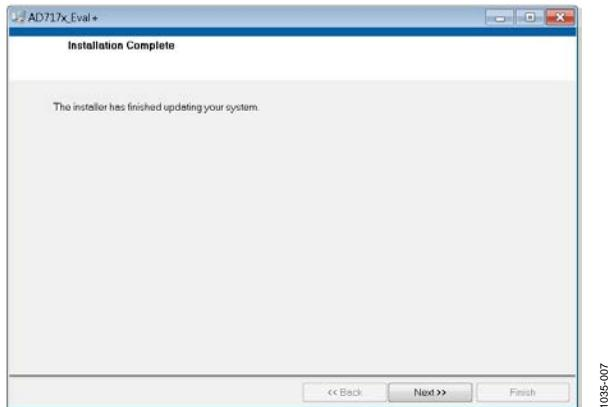

Figure 10. AD717x Eval+ Installation Complete
7. The message in Figure 10 appears when the installation is complete. Click **Next** to continue.